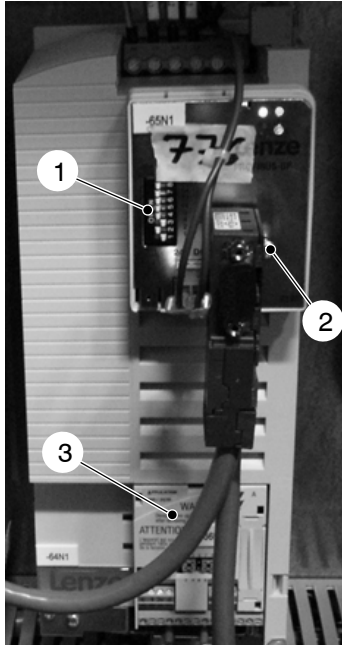

Fig. 7-1
2. Disconnect Profibus module (1, Fig. 7-1) or I/O board (3, Fig. 7-1) connections.
3. With Profibus module: Release screw (2, Fig. 7-1) .